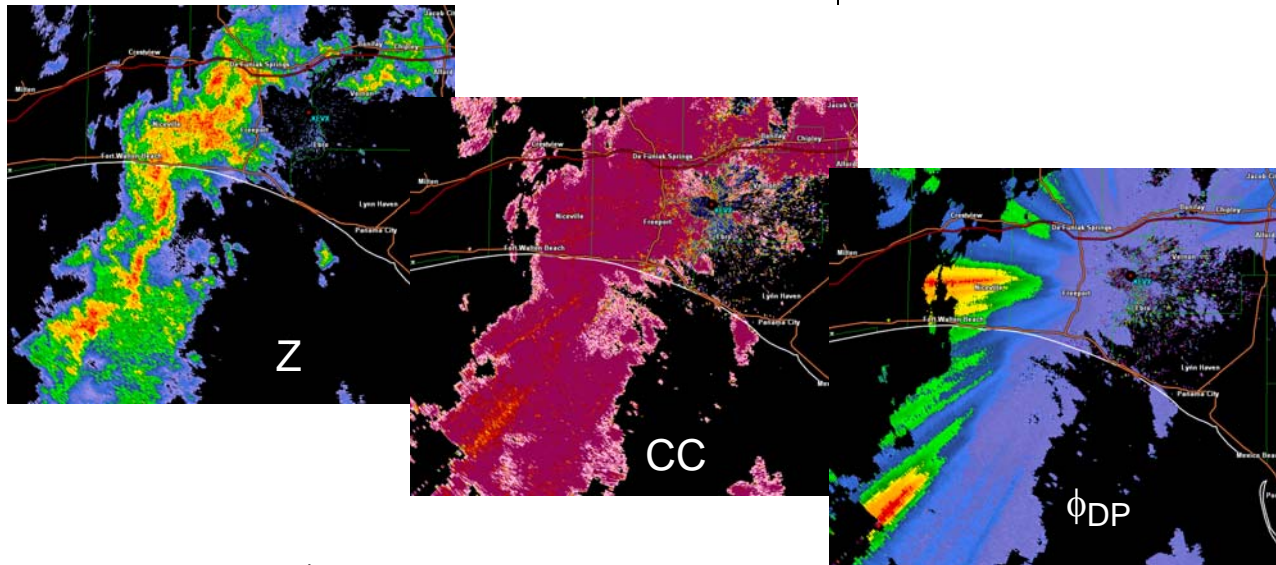

Figure 1. Z, CC, and ϕ_{DP} displayed in GR Analyst.
Differential Phase (ϕ_{DP}), one of the building blocks for the dual-pol variables, is used in the calculation for both Correlation Coefficient (CC) and Specific Differential Phase (KDP). ϕ_{DP} is not generated as a product at the RPG, thus is not viewable in AWIPS. However, it is available as level 2 base data and displayable through viewers such as GR Analyst (Figure 1).